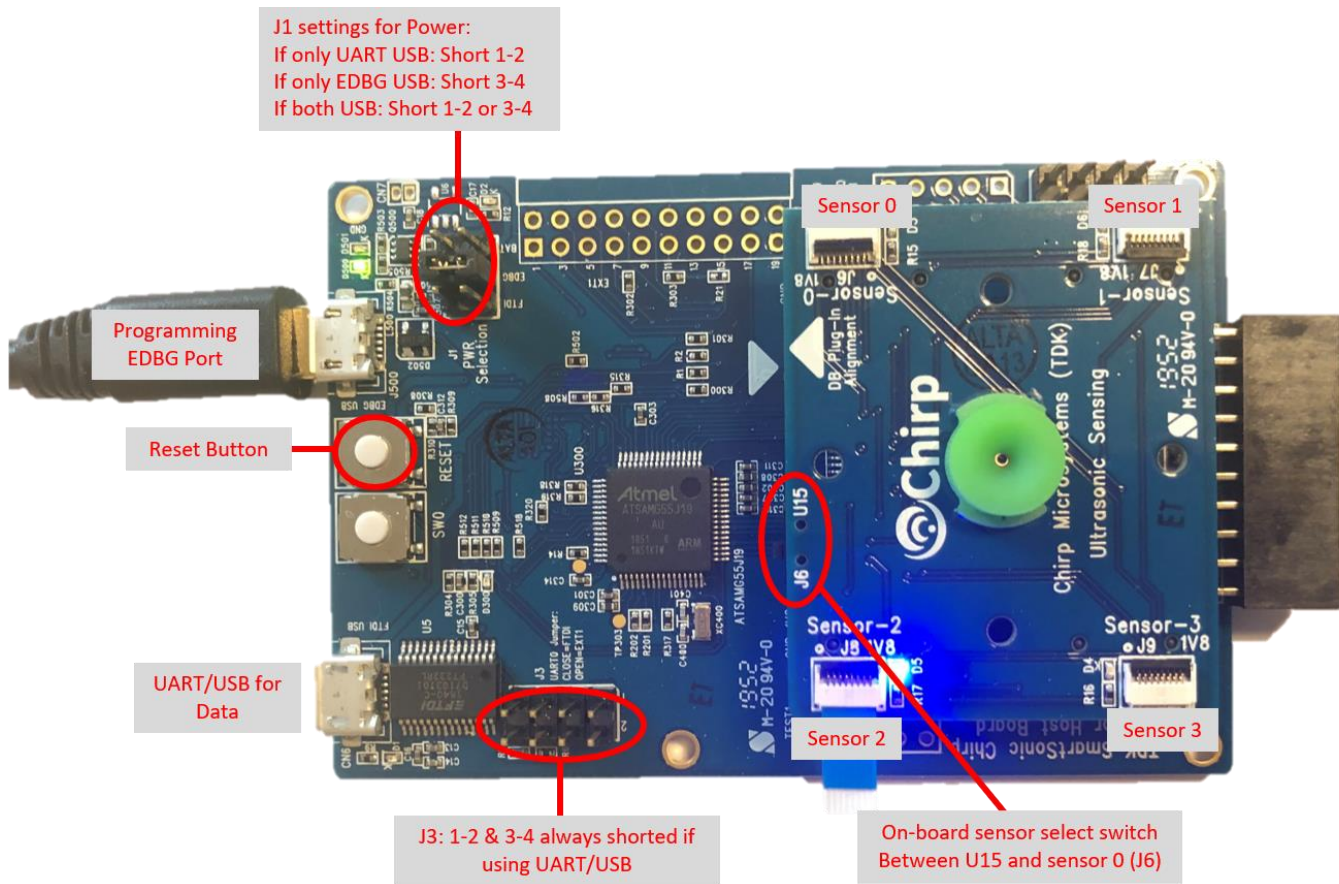

Figure 1- SmartSonic with CH201 Daughterboard
- Setup SmartSonic board Jumper J1 as in Figure 1.